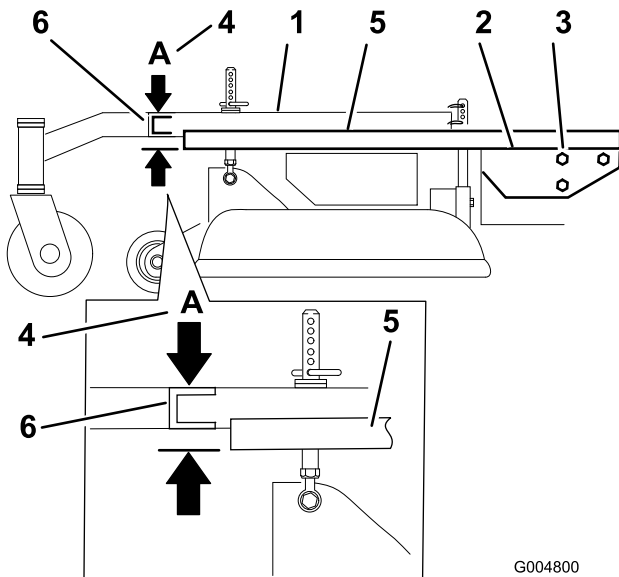

Figure 69
3. Place a long straight edge on top of the engine deck as shown in Figure 69.
4. At the carrier frame cross channel, measure the height at location **A** (Figure 69). This measurement must be 1-5/16 inch (33 mm), plus or minus a 1/4 inch (6 mm).
6. Loosen the carrier frame mounting bolts on both sides of the machine (Figure 69).
7. Align the carrier frame and engine deck to match 1-5/16 inch (33 mm), plus or minus a 1/4 inch (6 mm) at location **A** (Figure 69).